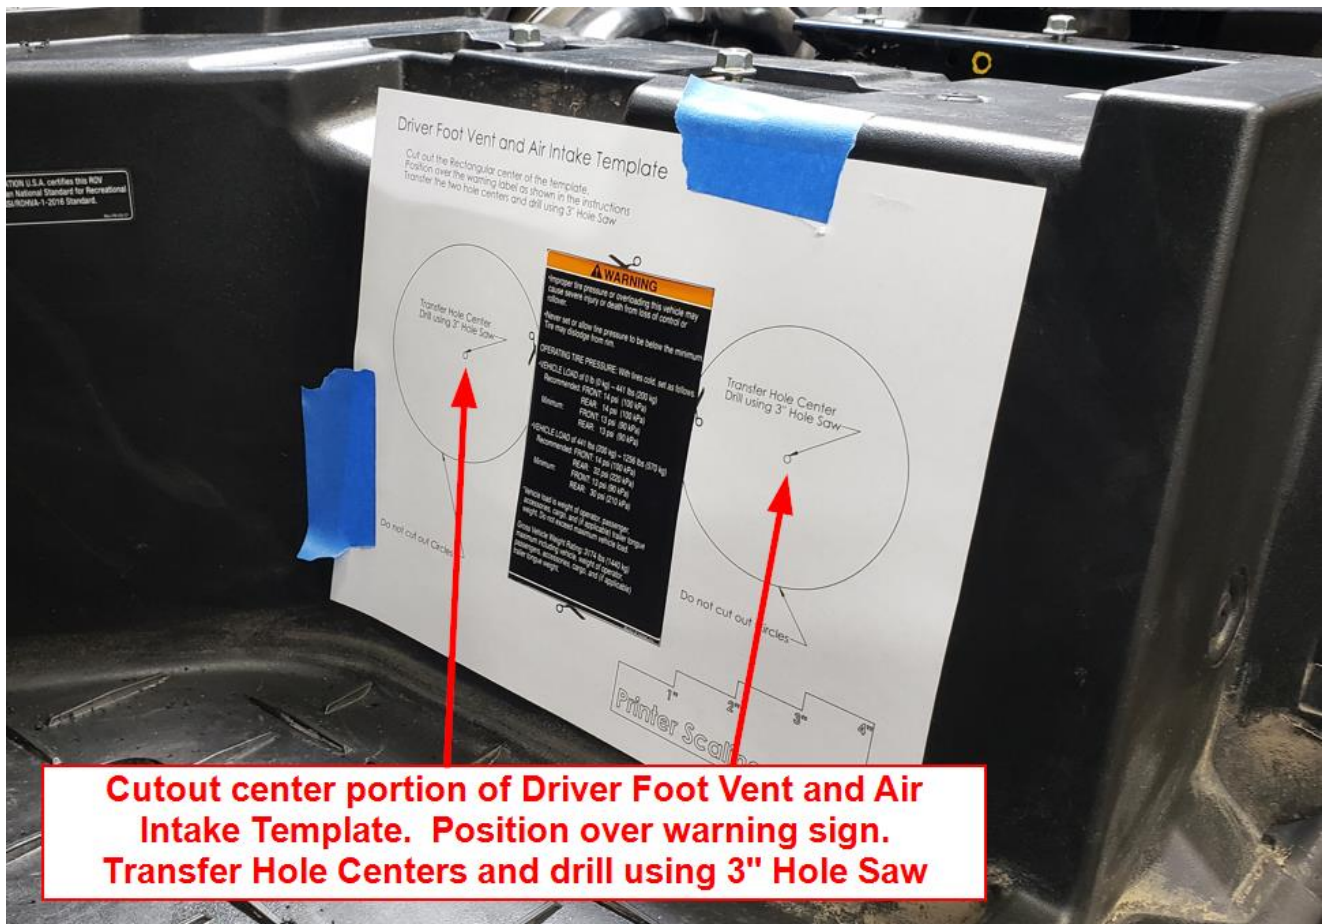

Figure 17
- d. Cut out the Driver Foot Vent and Air Intake Template and position around the warning label shown in Figure 17. Transfer the hole centers and drill using the 3" Hole Saw. Deburr as necessary. Add the "V" Notch to the hole closest to the center tunnel but there is no need to add one to the 3" Hole nearest the door.